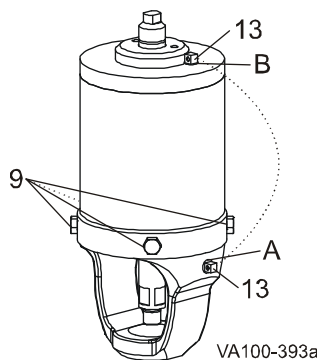

Figure 48:
7. Install the piston/spring assembly in the actuator cylinder and assemble them with cap screws (Figure 48, item 9).
8. Reverse the vent plug (Figure 48, item 13) as follows:
Air-to-Raise Actuator: The vent plug must be located on TOP of the actuator in Port B (Figure 48, item B).
Air-to-Lower Actuator: The vent plug must be located on the SIDE of the yoke in Port A (Figure 48, item A).